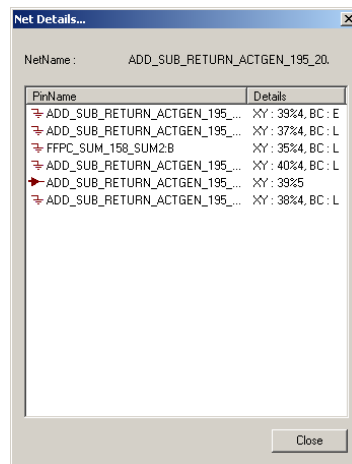

Figure 2-9. Net Details dialog box
2. **From the Net menu, click *Show Net Details*.** The Net Details dialog box, as shown in Figure 2-9, displays pin name and xy coordinates